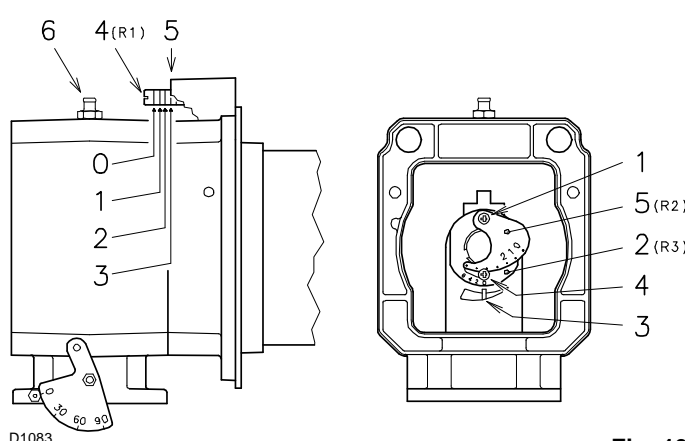

Fig. 13
At this stage of installation the blast tube and the pipe coupling are secured to the boiler as shown in Fig. 13.
- Turn the screw 4)(Fig. 13) until the notch found lines up with the front surface 5) of the flange.
- Loosen the screws 1) and 4)(Fig. 13) and rotate the ring nut 2) until the notch you have found lines up with the index 3).
- Turn the shutter 5)(Fig. 13) until the notch found lines up with the screw 4).